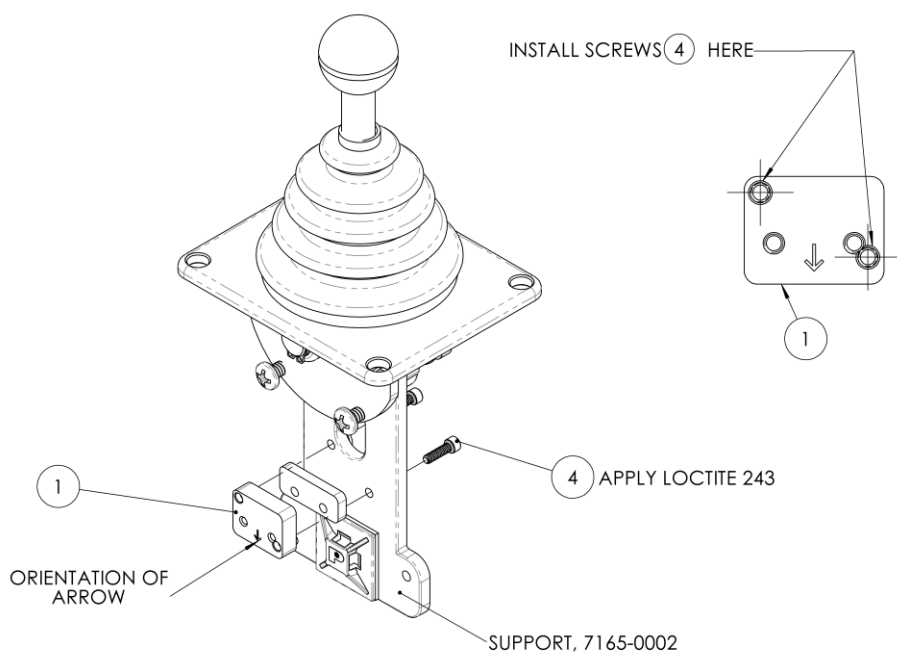

Figure 23: Installation of microswitch bracket, 7165-0011
5. Figure 23 for the next three steps. Note the engraved arrow on the microswitch bracket ① is pointed downwards on the joystick support.
6. Apply Loctite 243(Blue) to the X2 socket head cap screws ④.
7. Install bracket ① with screws ④ onto the joystick support 7165-0002, ensuring the engraved arrow is correctly orientated and the correct holes are used.